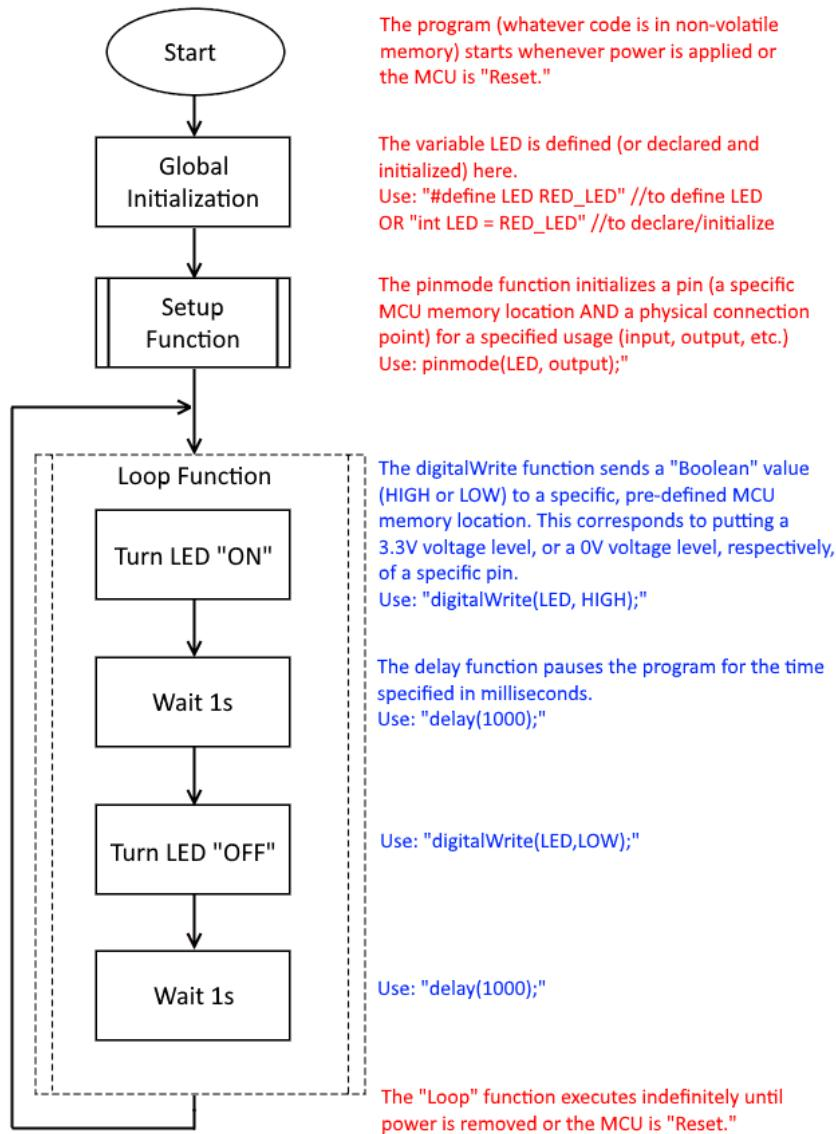

Figure 9.1: Blink Program Flowchart
- B. Consider Figure 9.1, which is a simple flowchart representing a blink program. Note that flowcharts are a visual representation of algorithms, which are nothing more than a finite set of precise instructions to solve a problem or to carry out a computation.
Figure 9.2 shows the code in Energia. Comparing this to Figure 9.1, you'll see that:
- C. Does the Energia sketch do what you expect it to? **Discuss whether or not it does, and give a thorough comparison of the flowchart in Figure 9.1 to the code.**